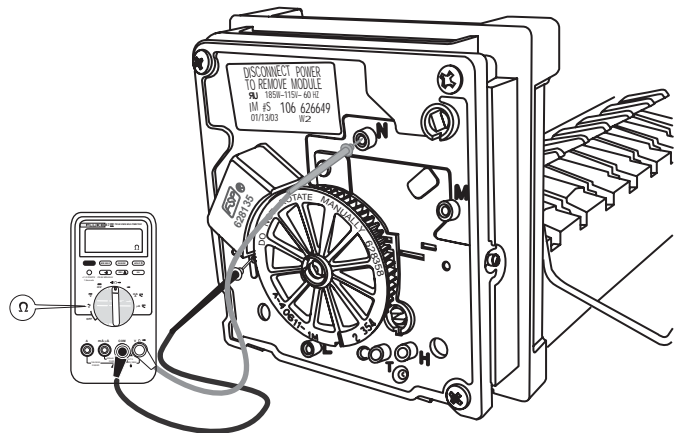

Figure 56. Checking solenoid resistance
3. Set multimeter to Ohm scale, then connect probes to test points V and N. See Figure 56. The test probe tips must be 1/2 inch long to make full contact with internal terminals.